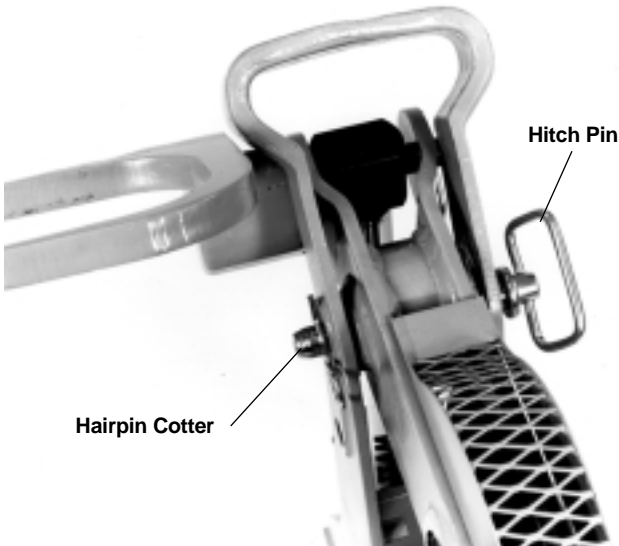
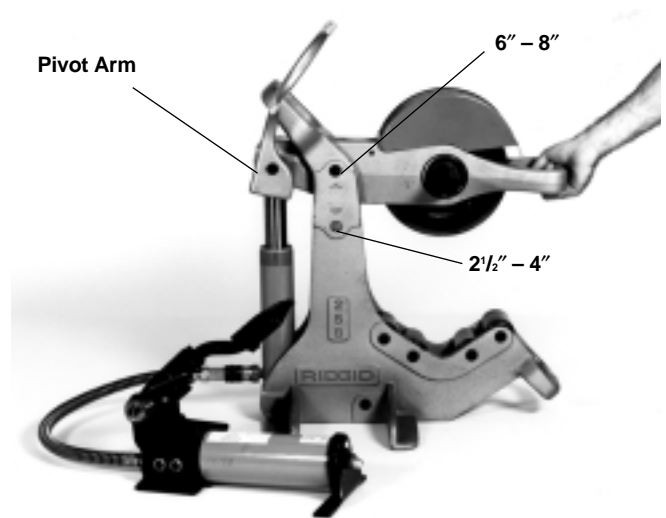

Figure 9 – Removing Hairpin Cotter and Hitch Pin
Figure 10 – Aligning Pivot Arm
- a. Remove the hairpin cotter and hitch pin from the pivot arm (*Figure 9*). Reposition the pivot arm to the locating hole marked, 6" – 8". (HINT: Activate the foot pump to elevate the pivot arm.) Align the hole on the pivot arm with the hole in the cutter frame and insert the hitch pin and hairpin cotter. Use handle on front end of pivot arm to reposition (*Figure 10*).